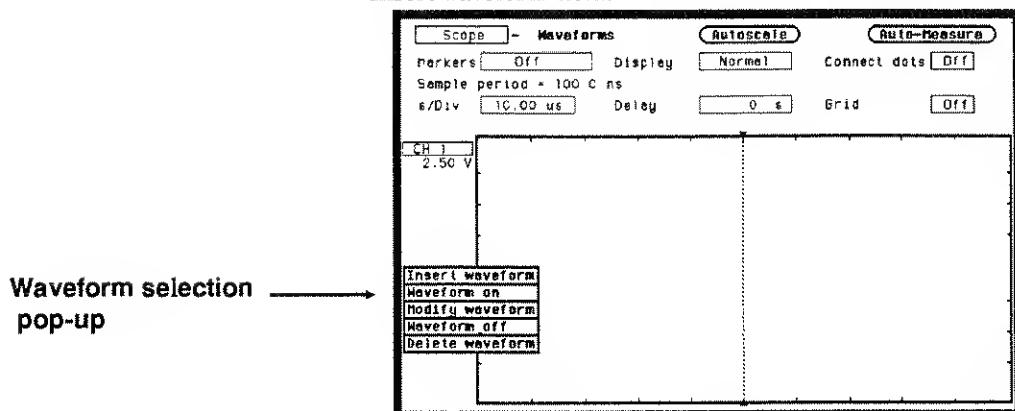

Figure 26-5. Waveform Label Pop-up
2. From the waveform selection pop-up shown in figure 26-5, select Insert waveform field.